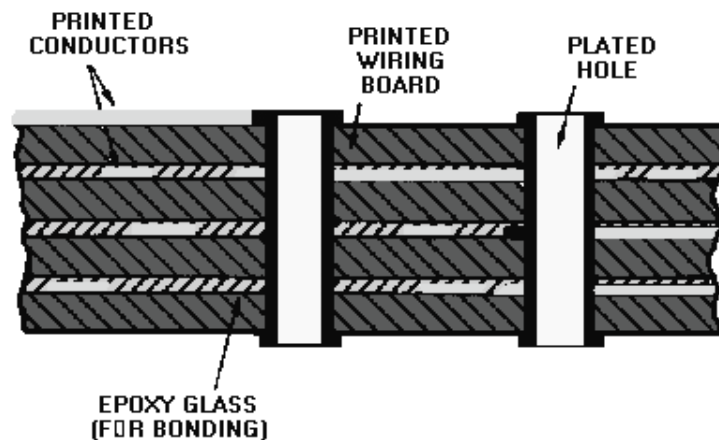

Figure 1-41.—Plated through-hole interconnection.
**PLATED-THROUGH-HOLE METHOD.**—The PLATED-THROUGH-HOLE method of interconnecting conductors is illustrated in figure 1-41. The first step is to temporarily assemble all the layers into their final form. Holes corresponding to required connections are drilled through the entire assembly and then the unit is disassembled. The internal walls of those holes to be interconnected are plated with metal which is 0.001 inch thick. This, in effect, connects the conductor on the board surface through the hole itself. This process is identical to that used for standard printed circuit boards. The boards are then reassembled and permanently bonded together with heat and pressure. All the holes are plated through with metal.